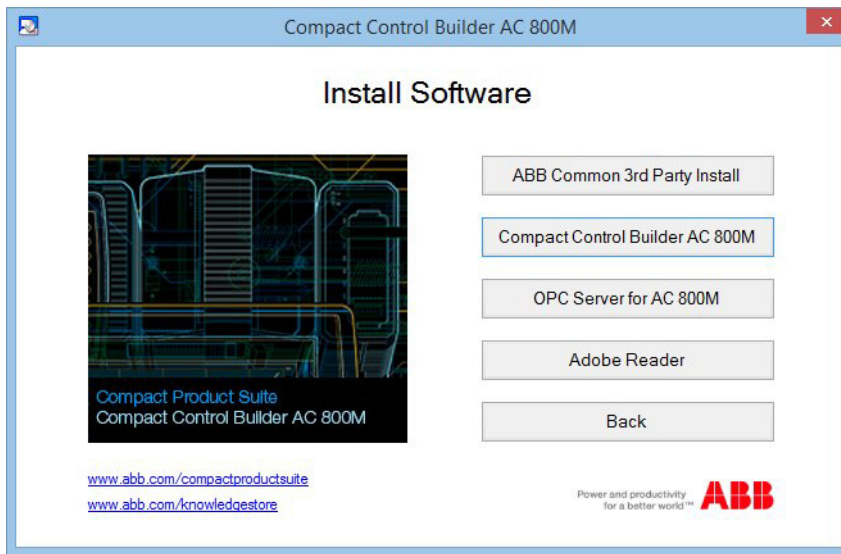

Figure 11. Install Software dialog
- The **Install Software** button activates the installation procedure. The Install Software dialog opens as shown in Figure 11.